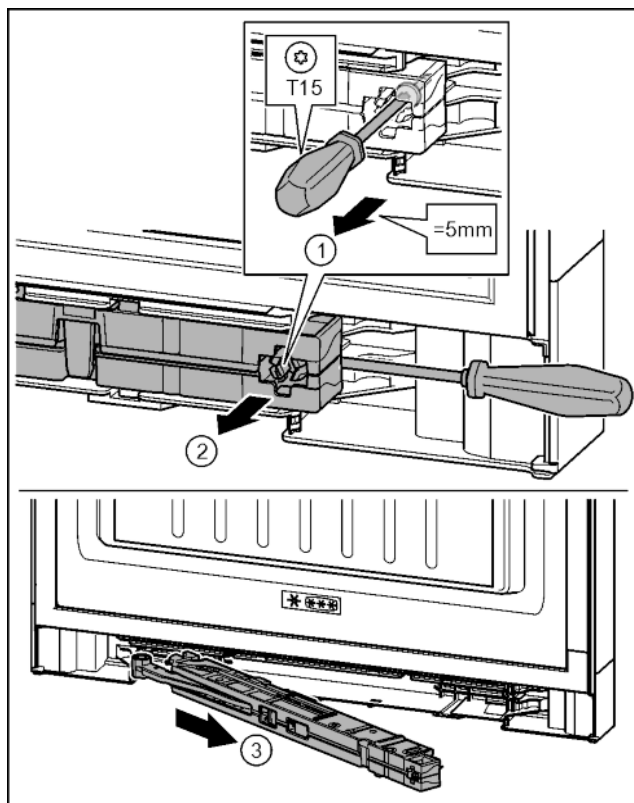

Fig. 18
- Undo the soft-stop mechanism screw with a T15 screwdriver approx. 5 mm. *Fig. 18 (1)*
- Insert the screwdriver on the handle side behind the soft-stop mechanism. Turn the unit forwards. *Fig. 18 (2)*
- Remove the unit. *Fig. 18 (3)*